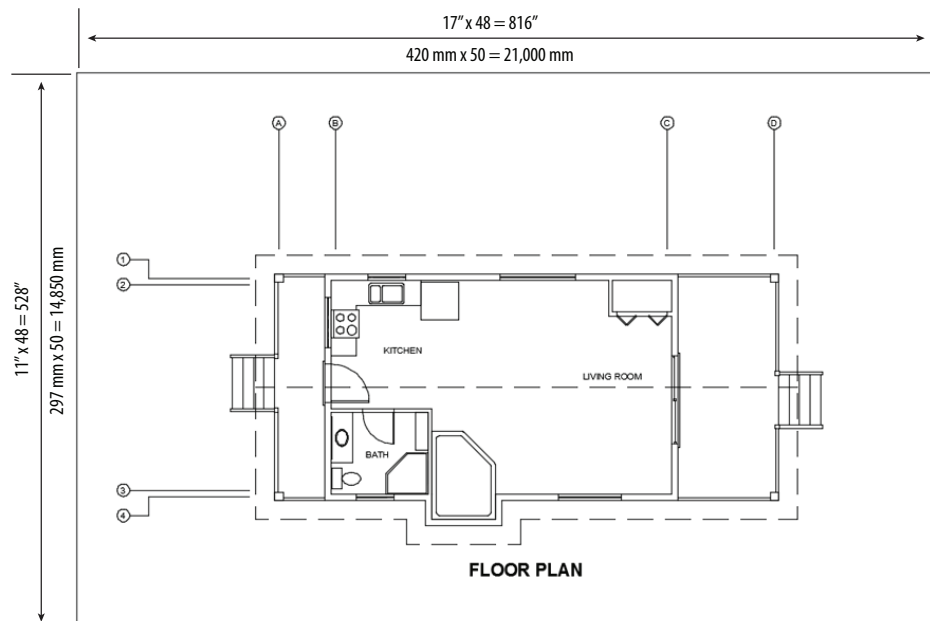

FIGURE 8.39: Approximating the viewable area for the 1/4" = 1'-0" (1:50) scale
To answer that question, you have to ask how big an area will fit on an 11" × 17" (A3, or 297 mm × 420 mm) sheet at 1/4" = 1'-0" (1:50) scale. The answer is quite simple. Every inch (millimeter) on the sheet represents 48" (50 mm) in the drawing (because 12" divided by 1/4 is 48", and 50 mm divided by 1 is 50 mm). Therefore, you multiply each dimension of the sheet in inches (millimeters) by 48 (50). For this sheet, you multiply 11" × 48 (297 mm × 50) to get 528" (14,850 mm), or 45'-4". You multiply 17" × 48 (420 mm × 50) to get 816" (21,000 mm), or 68' (21 meters), as shown in Figure 8.39. So, the sheet represents a rectangle with dimensions of approximately 528" × 816" (14,850 mm × 21,000 mm) at a scale of 1/4" = 1'-0" (1:50), which is usually called *quarter-inch scale*.